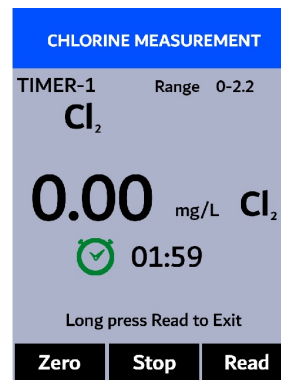

Figure 40.
8. The SP-710 will continuously display the free or total chlorine concentration as the timer counts down (Figure 40). If the real-time readings remain steady, press **Stop** (**>**) to stop measurement timer early or wait for the 2-minute timer to end.